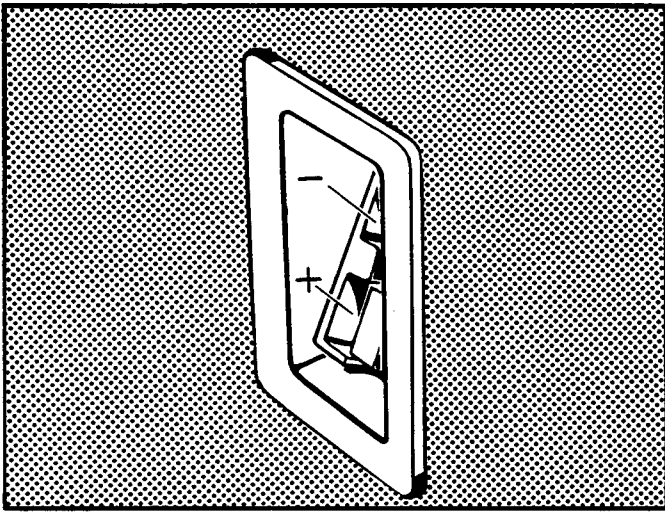

FIG. K-3 VEHICLE RECEPTACLE
To test the control circuit, turn the key switch (1) to the "ON" position. Set the volt meter to the 50 VDC range. Touch the black probe to the negative (-) contact of the vehicle D.C. receptacle and the red (+) probe to the positive (+) contact of the vehicle D.C. receptacle. (Fig. K-3)
Set the volt meter to the 50 VDC range, check that the key switch in "ON" and the forward-neutral-reverse switch is in the "REVERSE" (R) position. Locate the black probe (-) in the negative side of the vehicle receptacle (Fig. K-3) and place the red (+) probe to the terminal on MS-4 with the black wire. A meter reading of 36 VDC  $\pm$  5V indicates that the black wire between the positive (+) terminal of the front right battery and the micro switch MS-4 is in good condition.
Set the volt meter to the 50 VDC range. Touch the black (-) probe to the negative (-) contact of the vehicle D.C. receptacle and the red (+) probe to the positive (+) contact of the vehicle D.C. receptacle (Fig. K-3, K-5).